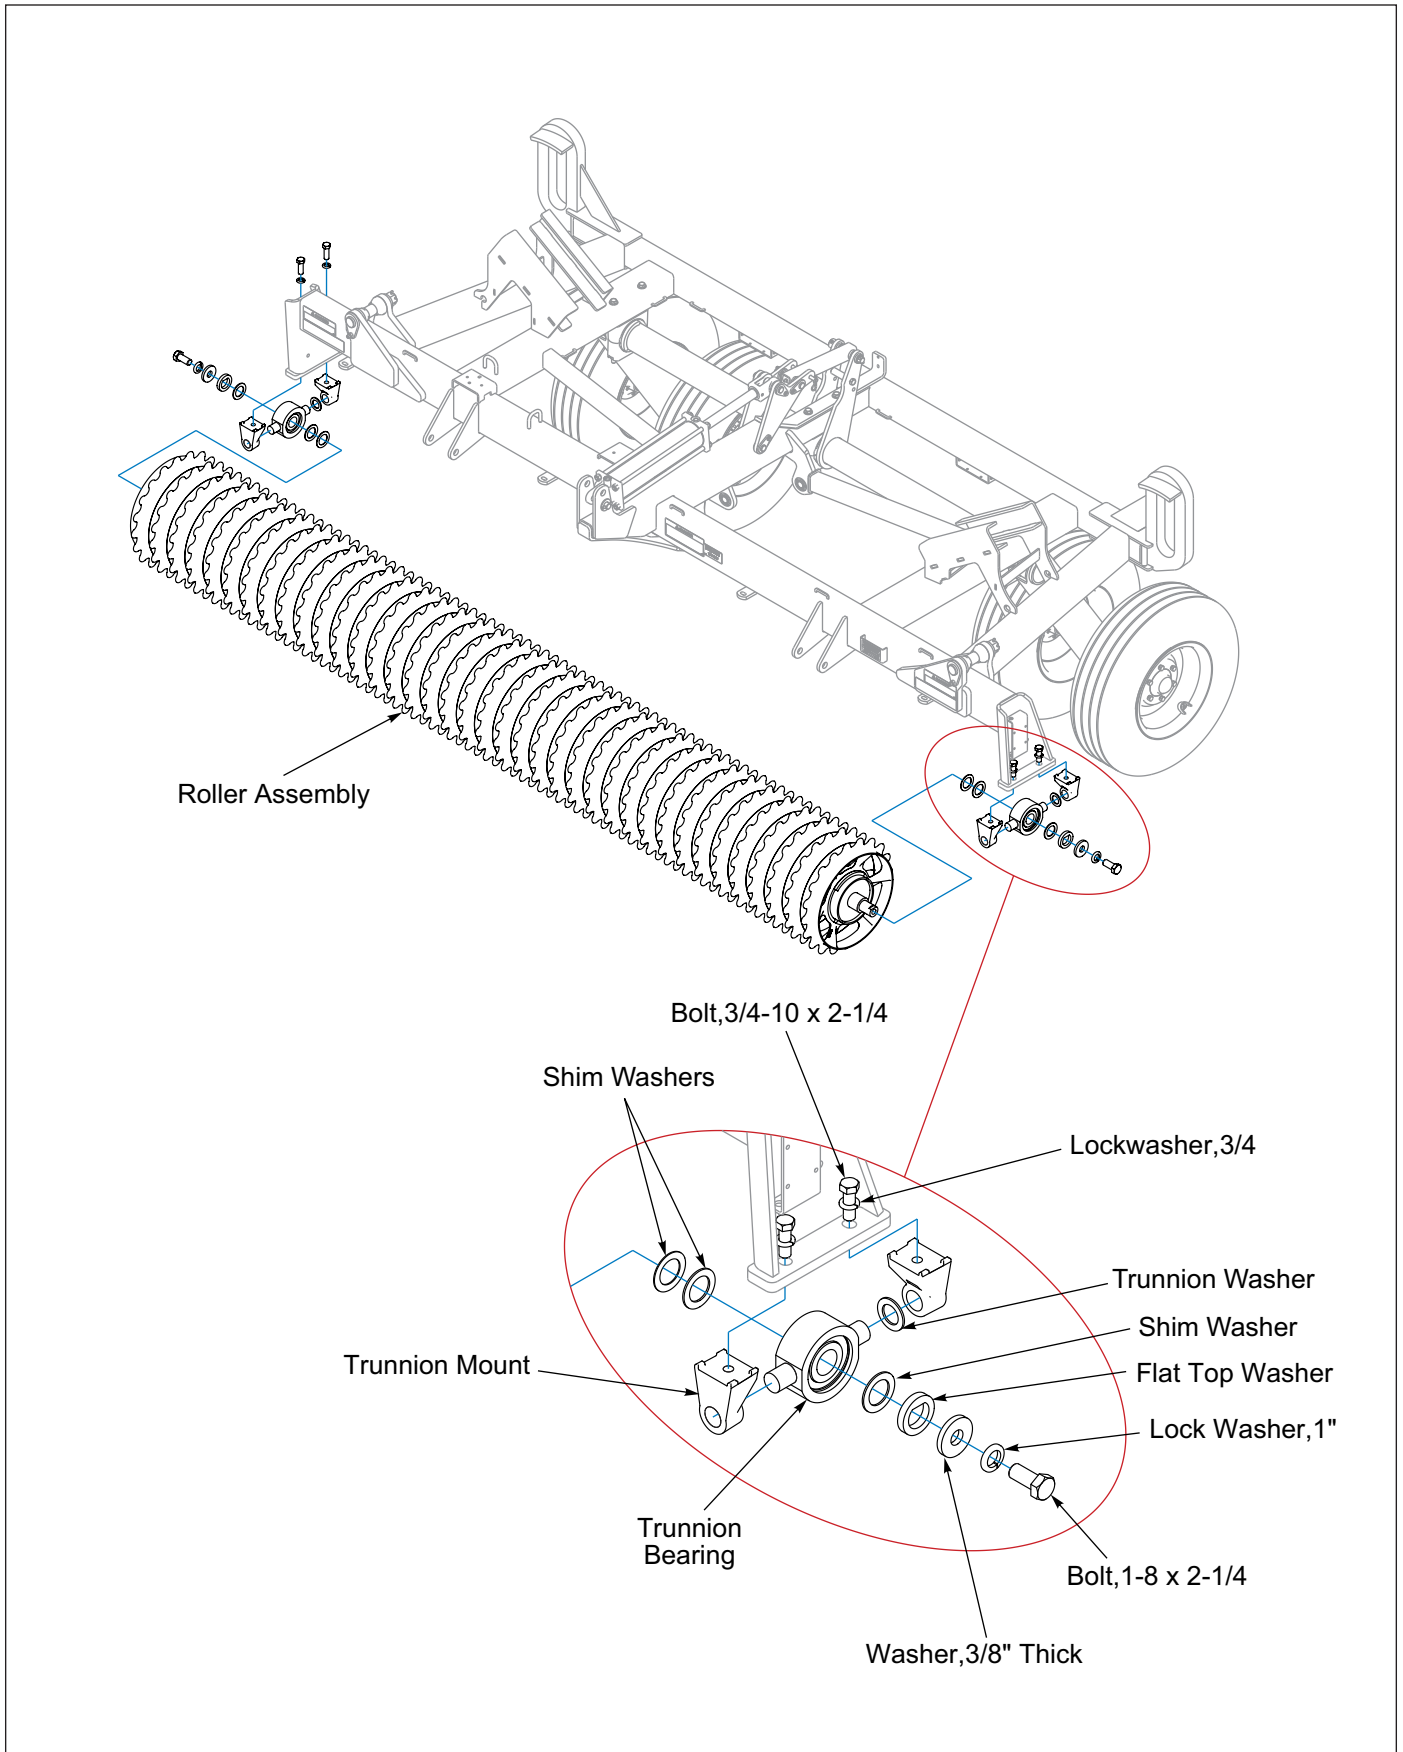

Figure 2-7: Center Frame Roller Installation
2. With the Bearing Grease Fitting facing towards the rear of the machine, slide the Trunnion Bearing Mounts onto the Trunnion Bearings and lift the Roller Assembly up to the Center Frame Bearing Hangers. Hand tighten 3/4-10 hardware to hold Trunnion Bearing Mounts in place. See Figure 2-7.